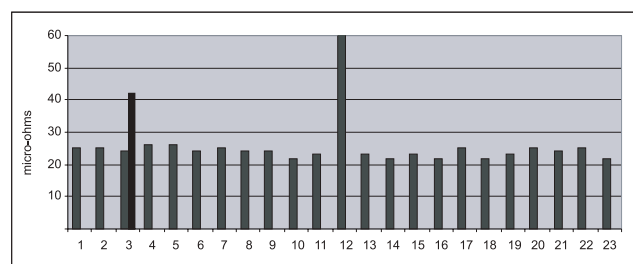

Figure 7 Intercell connection resistance bar graph
The graph in figure 7 shows the data obtained from an actual 24-cell telephone (CO) battery. The peak at connector #12 (cell 12 to 13) is an intertier cable connection. Connector #3 was out of specification and it was determined that one of the two bolts was not properly torqued. It was retorqued and retested. It came within ten percent of the string average after retorquing.